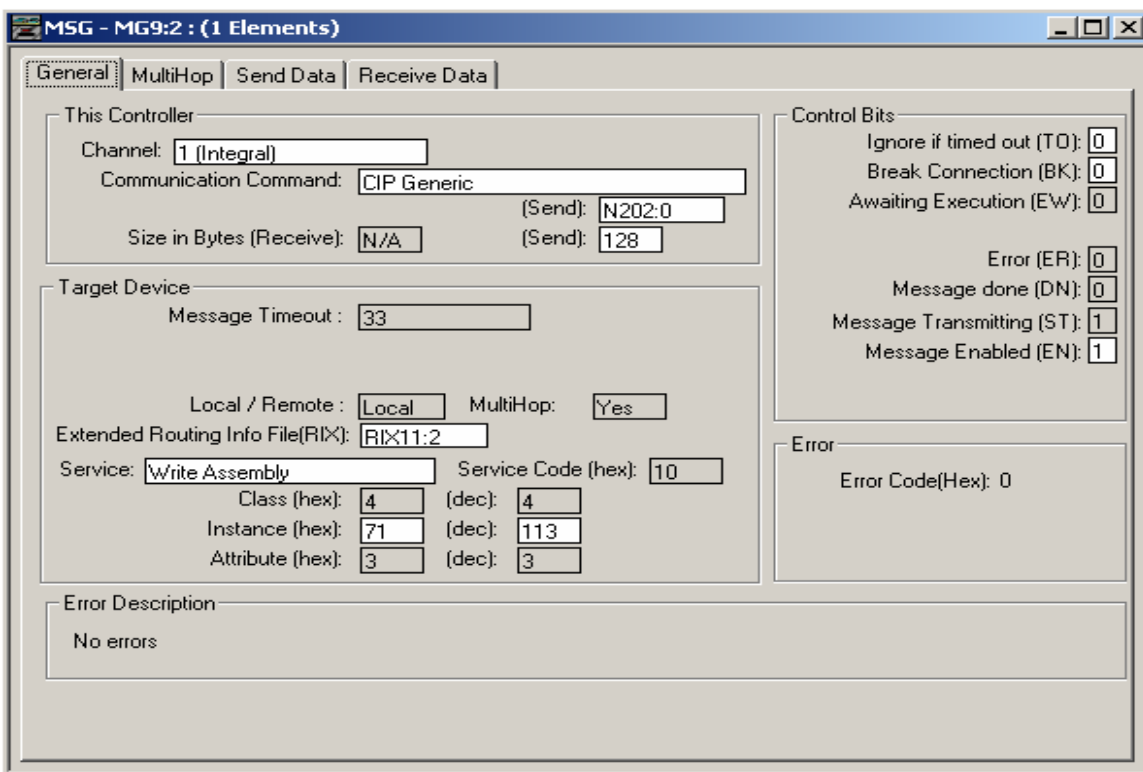

Figure 14: Configuring a write instruction
- a. Double Click in the *Channel* field, select *1 (Integral)*, from the drop down menu and press Enter. (Figure 14). Make sure that channel 1 has been configured with the correct IP settings. This can be verified by double clicking on *channel configuration* in the project tree.
- c. If the Message Instruction is being used to write data to the MP2300Siec unit, enter the integer file where the data will be placed in the *Data Table Address (Send)* field and press enter. If the Message Instruction is being used to read data to the MP2300Siec unit, enter the integer file where the data will be located in the *Data Table Address (Receive)* field and press Enter. (Figures 14 and 16)